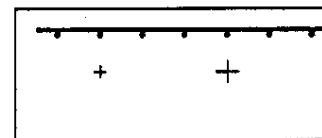

Fig. 6-2-2
- k. Enter the set value of the scale interval from the keyboard. For example, using the interval shown in Fig. 6-2-2 a "3" (3cm) would be inputted via the keyboard.